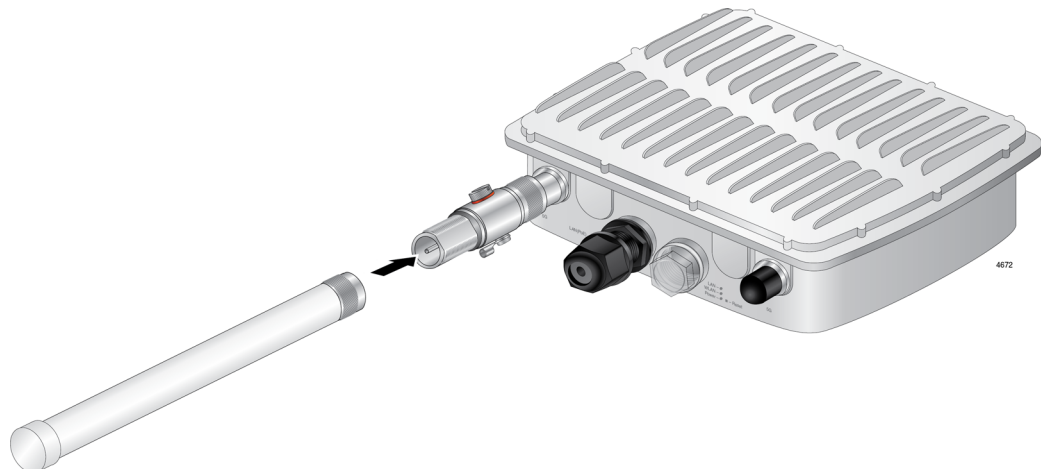

Figure 9. Installing an Antennas to the Surge Protector
3. Screw an antenna into the surge protector that you just attached to the access point. See Figure 9.